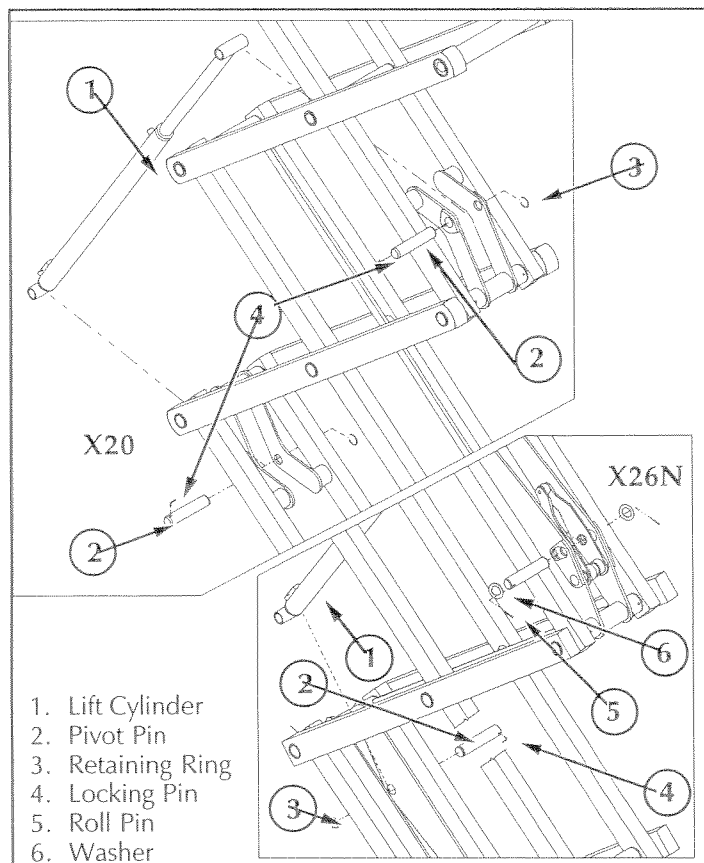

Figure 3-16: Lift Cylinder Installation
3.12 Lift Cylinder (Figure 3-16)